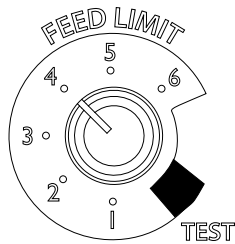
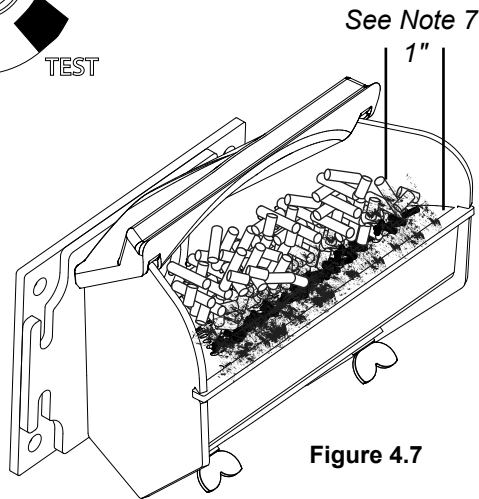

Figure 4.6
Figure 4.7
4. *Adjust Feed Rate. If this is your first fire or you are trying different pellets, set the Feed Limit to #4, Figure 4.6 This is a conservative number and will probably need to be increased. After you know a feed rate setting that works well, use that setting. Remember, if your feed rate is too high you may waste fuel.*
7. *Setting the Feed Limit # for maximum burn: With the unit burning in "AUTO", turn to "Stove Mode" and put the fan on "H". Set the Temperature Dial to #7. Allow the unit to burn for about 30 minutes and check ash on front of burn pot. Figure 4.7. If the ash line is larger than 1", turn the Feed Limit from #4 to #5. Allow another 30 minutes of burn time and check again. If, at #6 setting, a 1" or less ash bed is not obtainable, it is not a problem. The 1" ash bed is only at maximum burn rate and during normal operation, the ash bed will be larger.*
High output is determined by the feed rate setting. This setting, generally on #4, can be increased if higher burn rates are necessary (Figure 4.6). The unit's maximum burn rate should not create less than 1" of ash on the burn pot front edge (Figure 4.7). Overfeeding is not a safety concern, but fuel may be wasted if unburned pellets fall into the ash pan.
This allows for automatic ignition upon start-up only. The unit can then be set at any desired setting. The heat output and fuel consumption will remain constant regardless of room temperature. The unit's maximum feed rate should not create less than 1" of ash on the burn pot front edge. Figure 4.7.